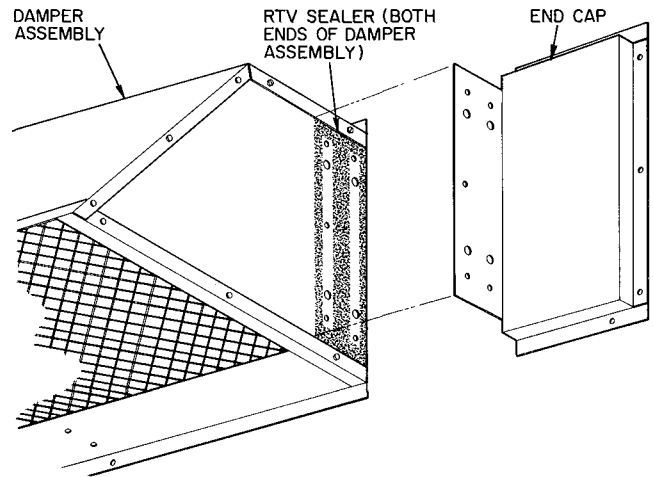

Fig. 2 — RTV Sealer Details
4. Apply a generous amount of RTV sealer to both ends of damper assembly as shown in shaded area of Fig. 2.
5. Install end caps to damper assembly. Refer to Fig. 2 and 3.